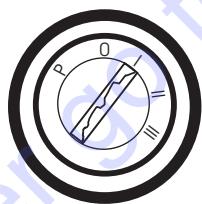
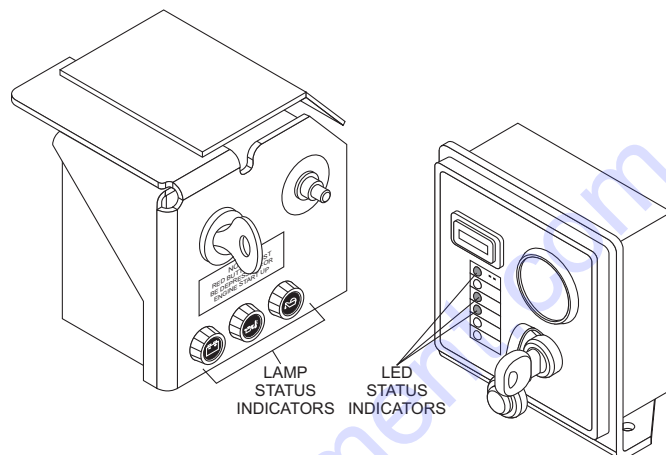

Figure 13. Ignition Switch
Figure 14. Engine Status Indicators Lamps
2. Insert ignition key into ignition switch (Figure 13), turn ignition key clockwise to position I, and verify that all three status indicator lights (Figure 14) are **ON**.